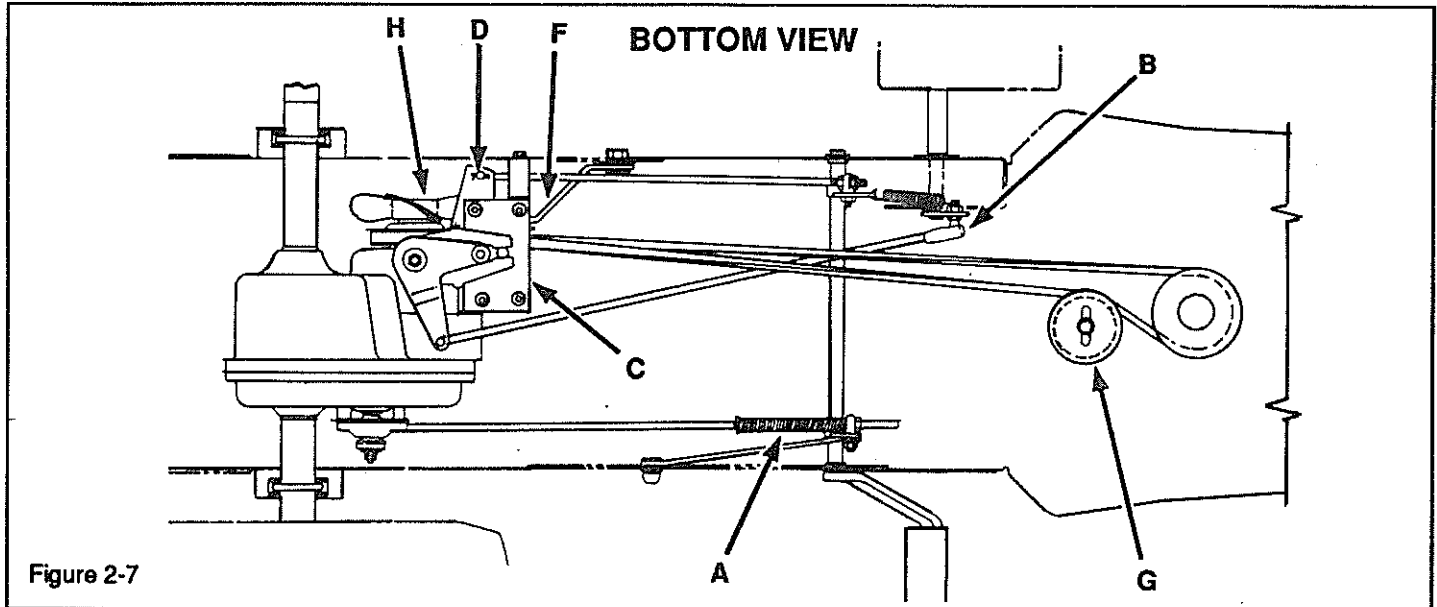

Figure 2-7
- Brake arm (A) should apply initial braking force when arm moves 1/4" - 7/16" (9 - 11 mm) from the center position.
- If adjustment is required, adjust nuts (B).
- With rod (C) of brake removed, total travel of brake arm from side to side should not be more than 7/8" (22 mm).
- With brake disengaged, adjust brake rod (C) so that arm (A) is vertical. Spring (A, Figure 2-7) should be compressed approximately 5" (12.7 cm). After adjustment is finished, check brakes for proper braking action.
- If a different foot pedal angle is desired, adjust at ball joint (B, Figure 2-7).
- b. Adjust support plate (C, Figure 2-7) side to side until wheels do not rotate.
2. Adjust rod (D, Figure 2-7 and 2-8) until control pin (E) of neutral plate (D) is in slot. Make sure plate is free of all binding.
Idler arm (F) should always be parallel with lower edge of frame. If not, relocate adjustable idler (G, Figure 2-7). See also Figure 2-9.